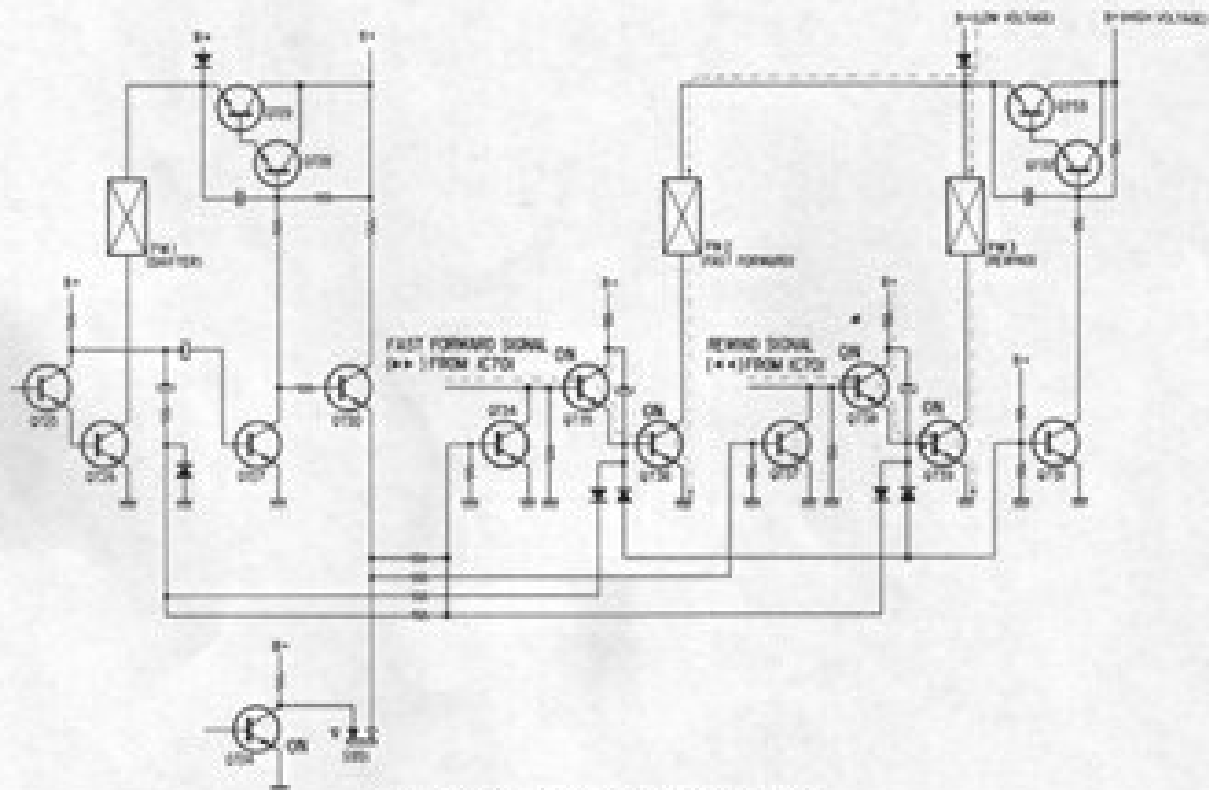

Fig. 1-4 Fast Forward or Rewind Mode
2. STOP mode - fast forward or rewind mode (energized PM2 or PM3) (See Fig. 1-4)